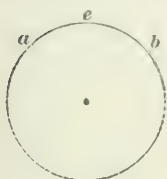

FIG. 41.
70. An **arc** of a circle (see aeb , Fig. 41) is any part of its circumference.